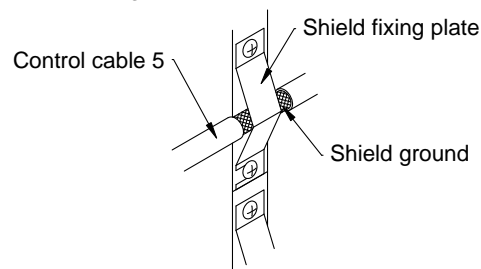

Figure 2.1.5 Connection of control cable 5 (Fix the shielding ground)
- 3 Fix the shield section of the cables to the shield fixing fixtures on the left side of the service entrance as shown in Figure 2.1.5.